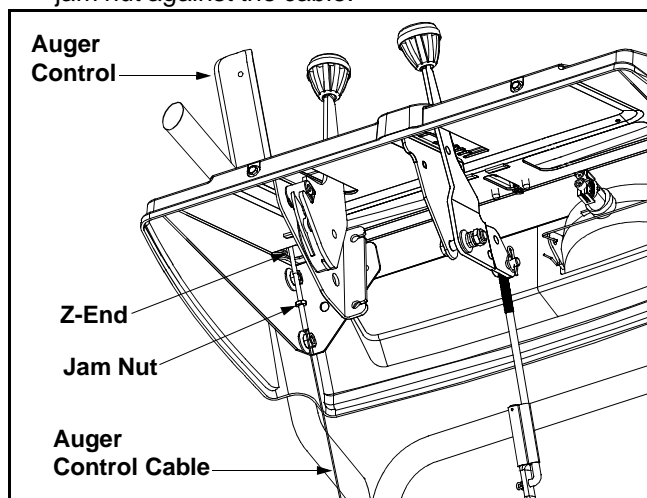

Figure 5
- Push forward on the auger control until the small rubber bumper contacts the upper handle. There should be slack in the cable. See Figure 5 .
- Loosen the jam nut and thread the cable in (for less slack) or out (for more slack) as necessary. See Figure 5 .